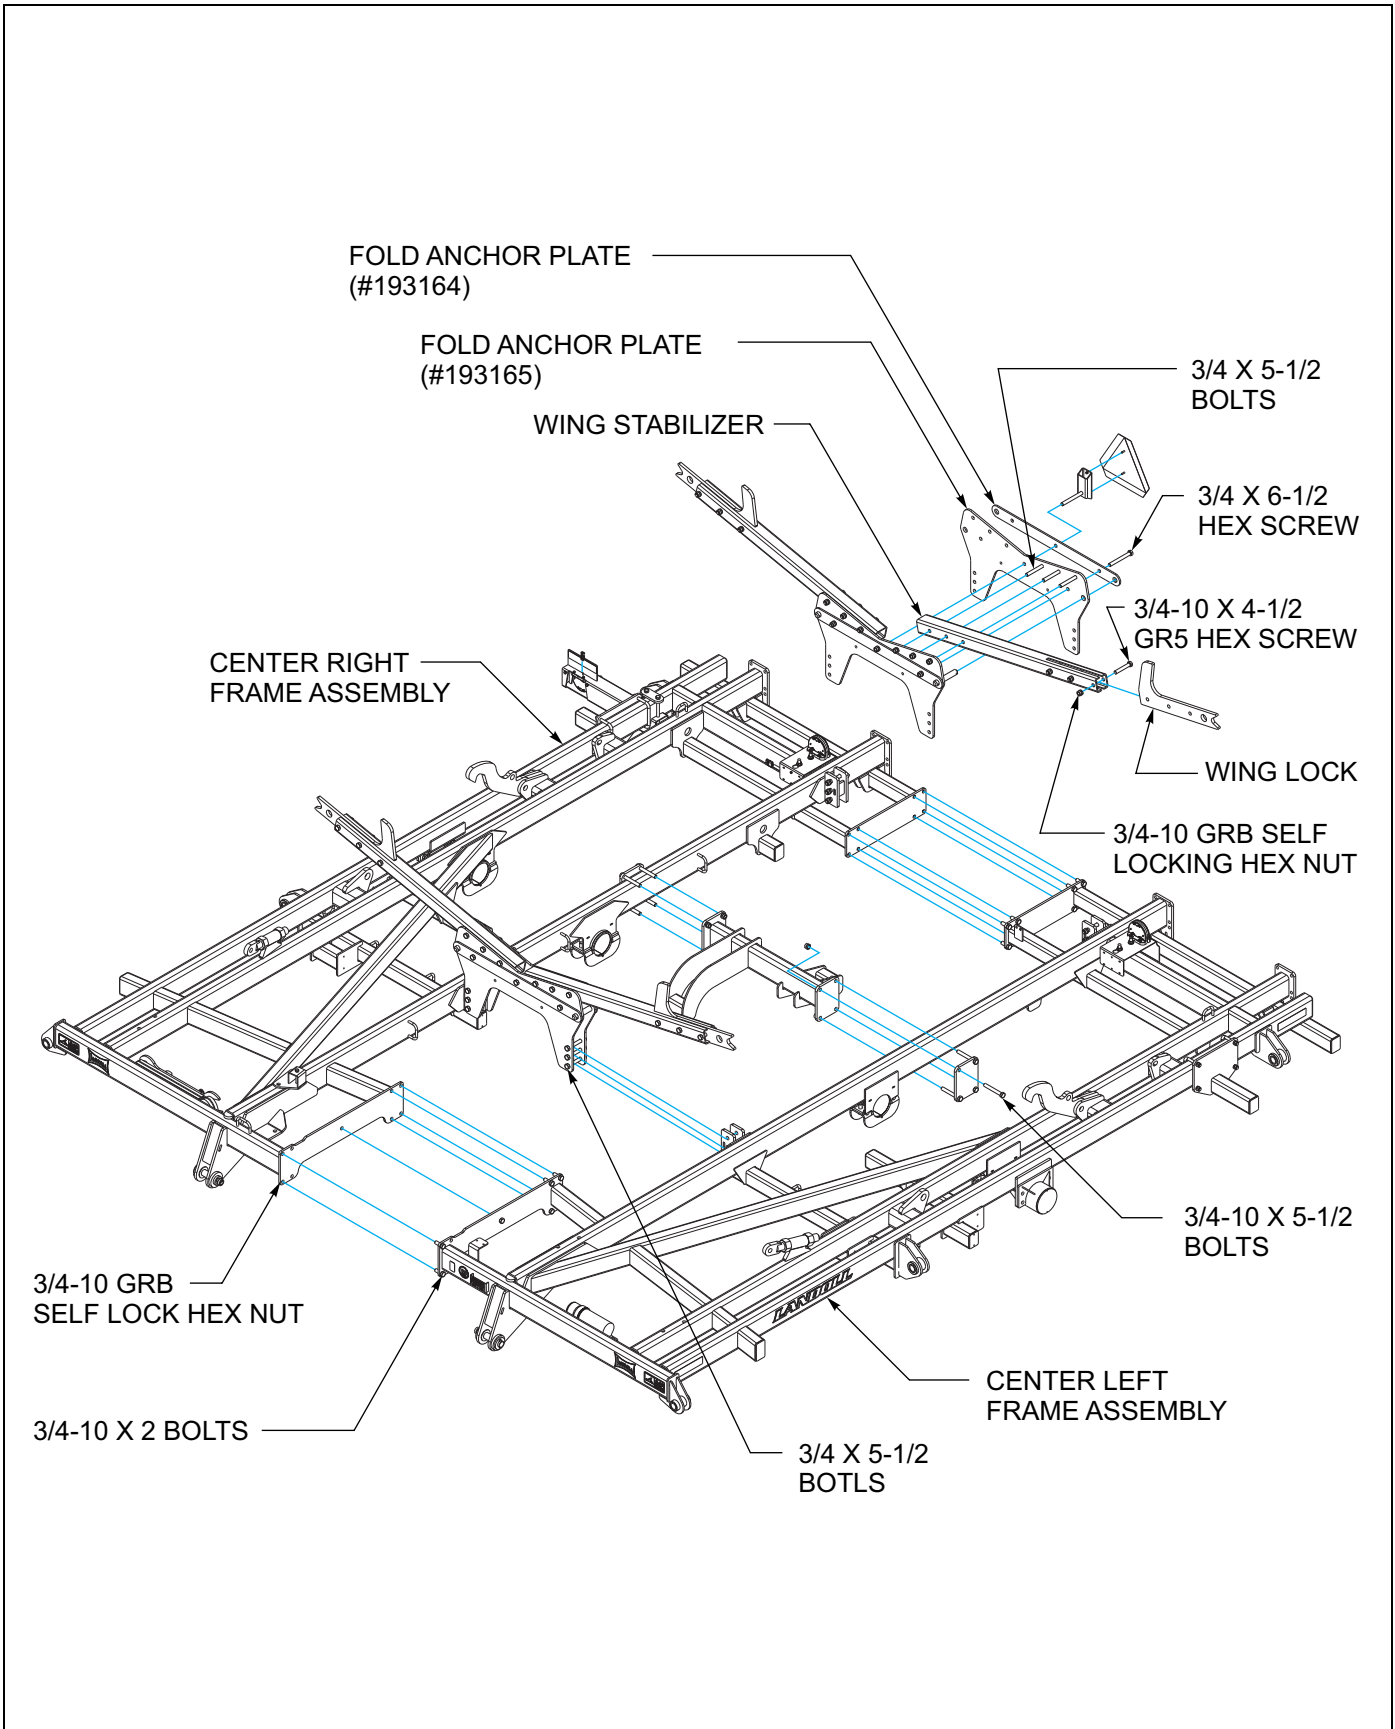

Figure 3-2: Center Frame Assembly - 43'-48'
2. Install center shank assembly as shown in (See Figure 3-2.)